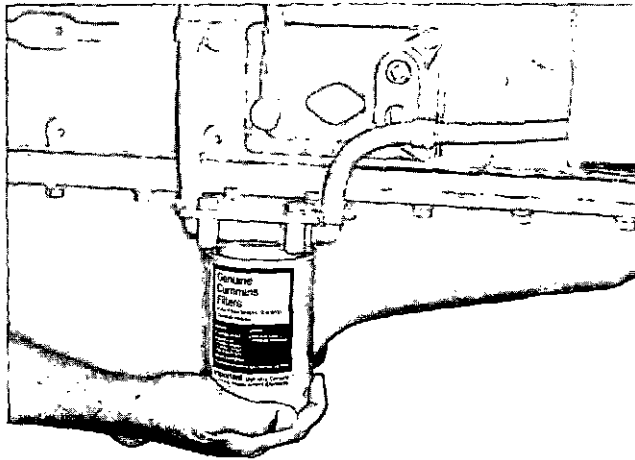

Fig. 2-32 (N11976) Installing spin-on corrosion resistor
3. Install new element (see caution above), tighten until seal touches filter head. Tighten an additional one-half to three-fourths turn. Fig. 2-32.